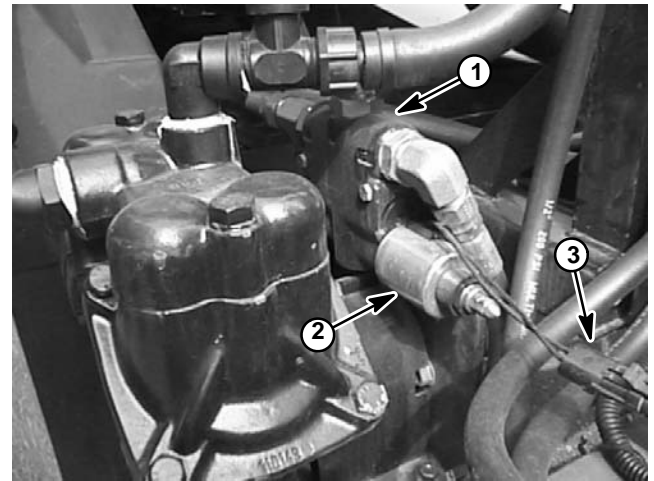

Figure 43
5. Disconnect four (4) hydraulic hoses from fittings in PWM Valve. Allow hoses to drain into a suitable container.
7. Disconnect PWM Valve solenoid connector from machine wiring harness (Fig. 43).
8. Remove two (2) cap screws and flange nuts that secure PWM Valve to pump mount bracket. Locate and retrieve two (2) flat washers from between PWM Valve and pump mount bracket. Remove PWM Valve from machine.